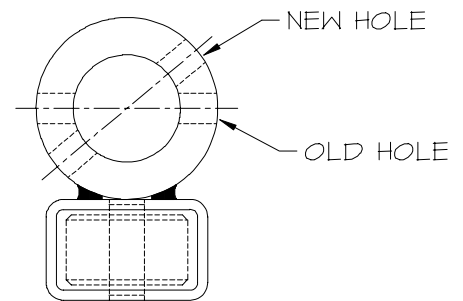

FIG. 11
- **Drill a new 3/8" hole** through both sides of the v-cam follower (Figure 11).